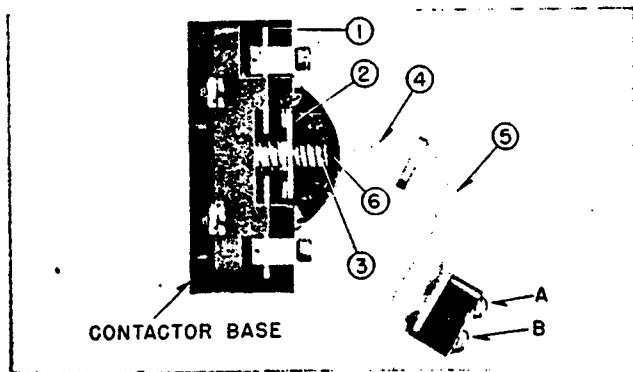
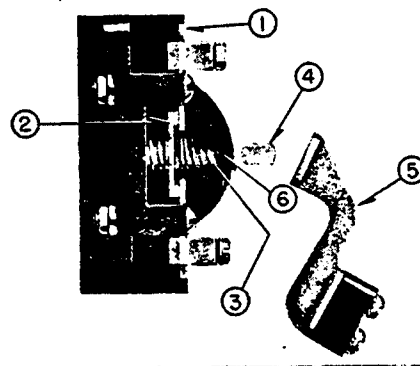

FIG. 2. Normally Open Interlock
FIG. 3. Normally Closed Interlock
shown in Fig. 2, and reassembling parts 1, 2 and 3 per Fig. 3, the interlock is changed from normally open to normally closed contact. The change is simplified by first placing the contactor in the normal vertical operating position and by proceeding as follows:
1. Swing arm (5) out of way by removing screw A and loosening screw B. (See Fig. 2).
2. To detach upper spring (3) from plunger (4) compress inturned end of spring counterclockwise against contact bar (2) and rotate spring until it disengages hole (6).
4. Operate reassembled interlock by hand to check freedom of moving parts before reassembling arm (5) into original position.